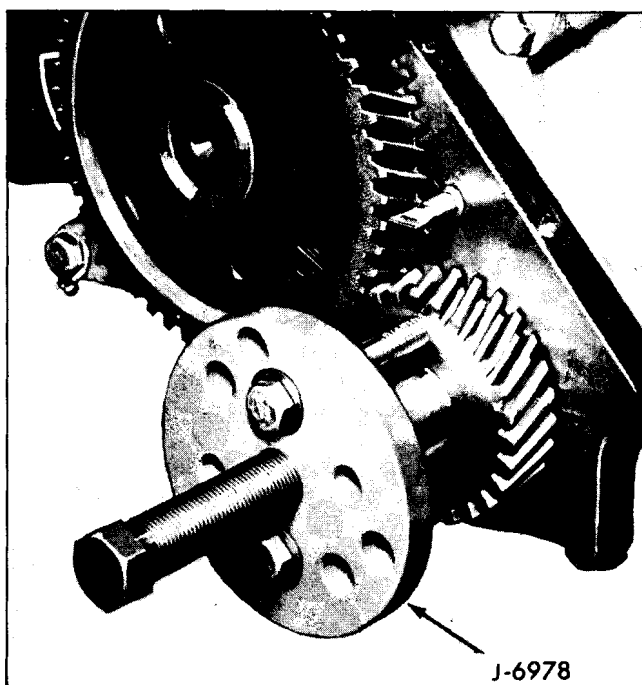

Fig. 6-71 Removing Crankshaft Timing Gear
8. Remove crankshaft timing gear with tool J-6978 (Fig. 6-71).